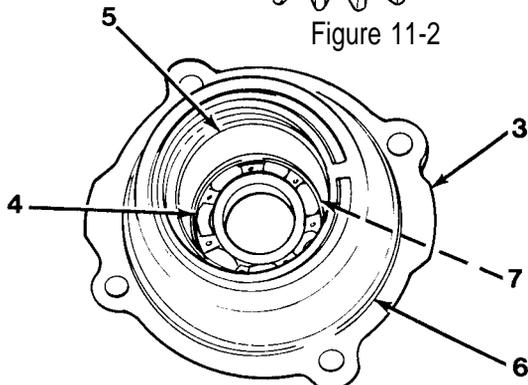
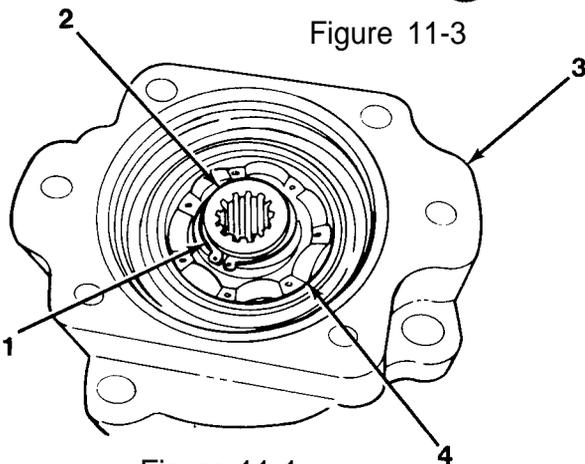

Figure 11-3
Figure 11-1
Install cup of bearing (5) into pump adapter (3, Figure 11-3) by using a press. Lip should be facing in when installing cup of bearing (5). Seat snap ring against pump adapter (3).
4. Install bearing (4) into pump adapter (3) by using a press. Seat snap ring against pump adapter (3).
5. Install ground driven pump gear (2) on pump adapter (3, Figure 11-1) by using a press.
6. Install snap ring (1) on ground driven pump gear (2).